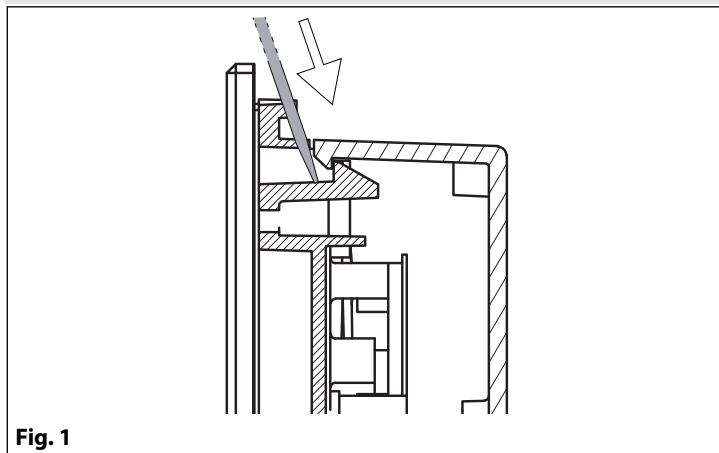
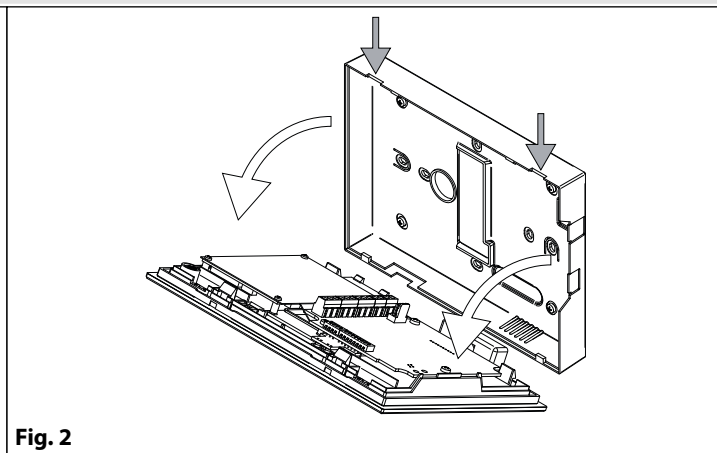

Fig. 1
Fig. 2
1. To install the videophone, it is necessary to remove the back cover. Apply pressure to the two openings indicated by the grey arrows (**Fig. 2**) using a flat screwdriver.
2. Insert the screwdriver blade in the opening (**Fig. 1**) with an angle of 45 degree and press lightly (simply press, do not force the opening with the screwdriver blade) to unfasten the bottom hook and, at the same time, lightly pull the upper part in the direction of the white arrows of **Fig. 2**. **N.B.repeat the same operation with both openings.**